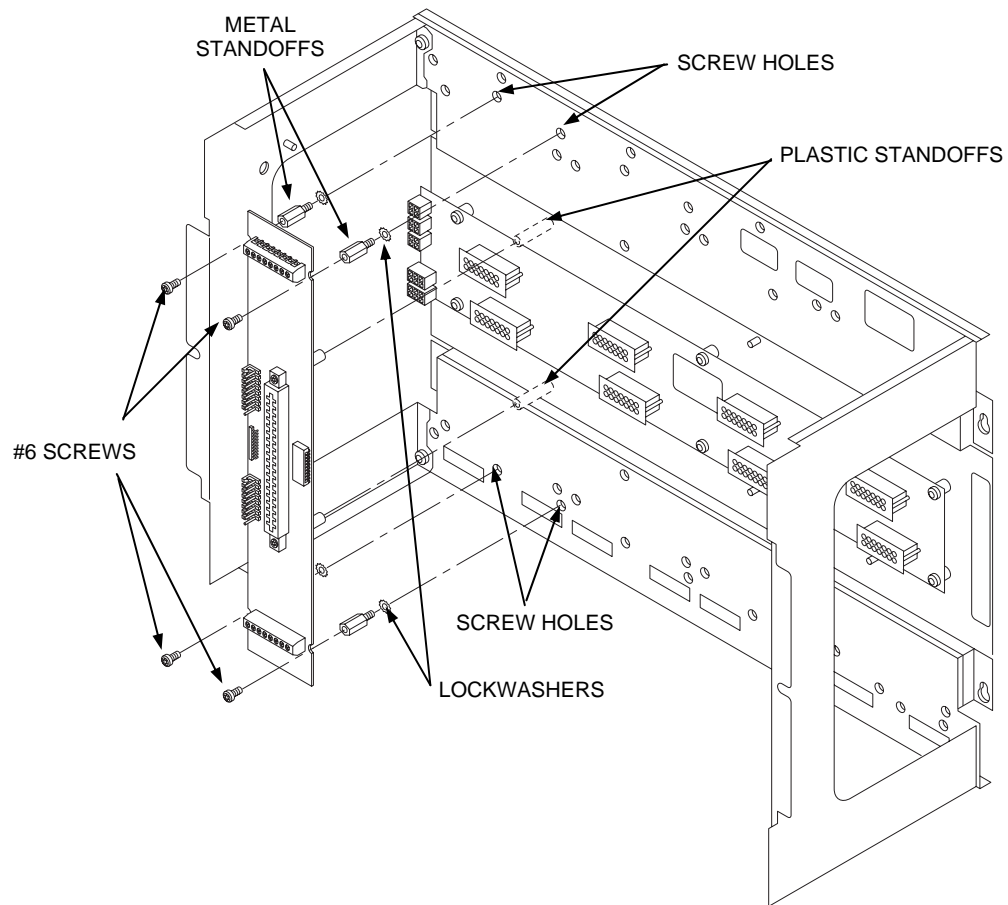

Figure 8. Installing the Motherboard in a 4100U/4100ES Expansion Bay
4. Secure the motherboard to the standoffs using four #6 torx screws as shown in Figure 8.